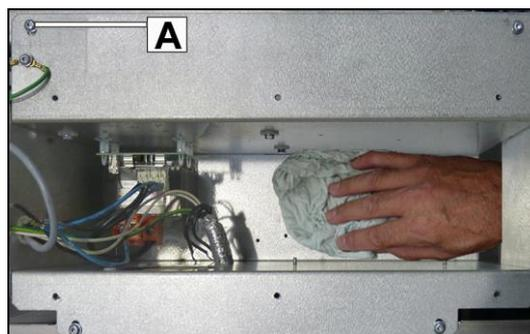

Fig. 3.21
7. Remove dirt from the inverter box with a brush or a dry cloth (Fig. 3.21).